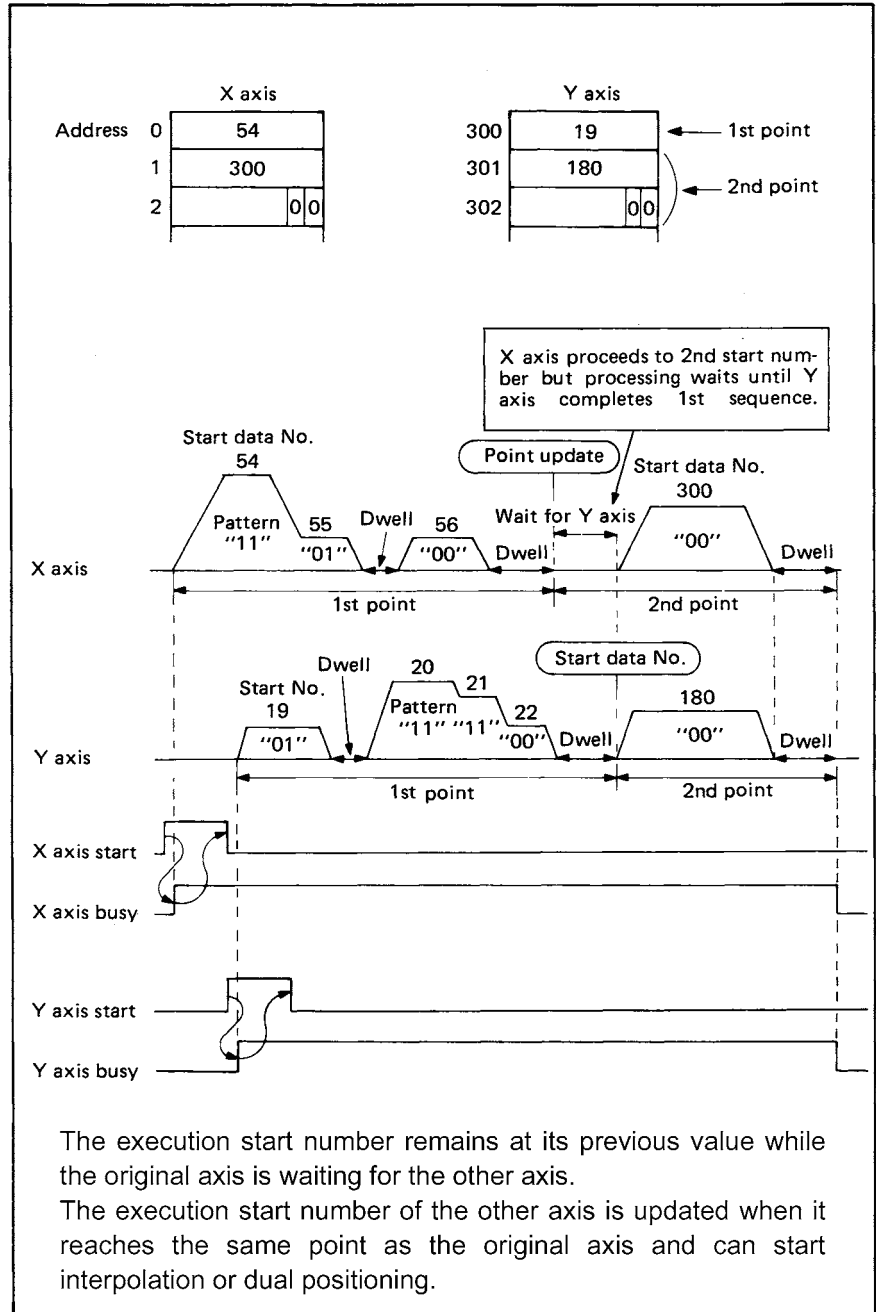

Fig. 3.30 Start Data Example 5
5) In a situation where interpolation (00) or independent (11) start has been defined at one axis and the other axis is still positioning, processing will vary as described below.
- An axis will wait for the other to finish its current process or for its busy signal to turn off. This is illustrated in Fig. 3.30 below.